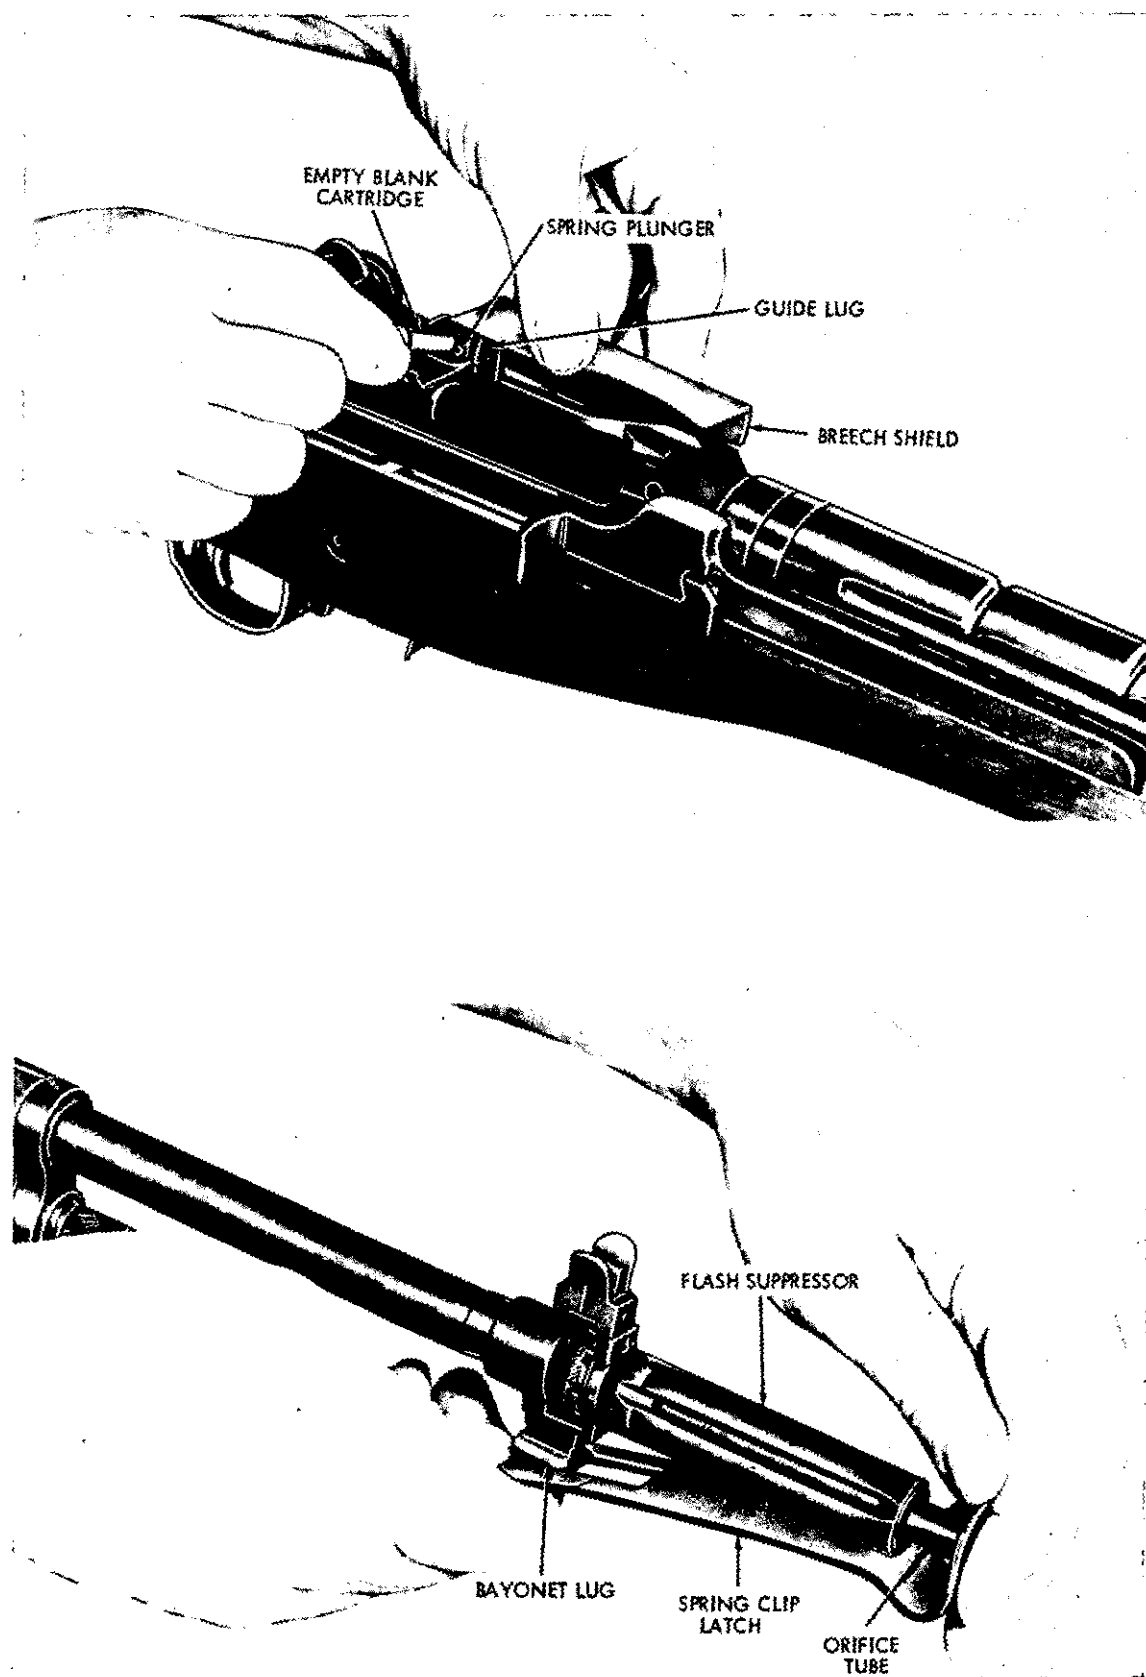

Figure 58. Installation of blank firing attachment and breech shield.
a. *Installation* (fig. 58).
- (1) *Blank firing attachment.* Insert the orifice tube in the muzzle opening of the flash suppressor. Pull out on the clip latch and push down on the top of the orifice tube of the blank firing attachment. Release the clip spring latch securing the cut away portion of the latch to the bayonet lug.